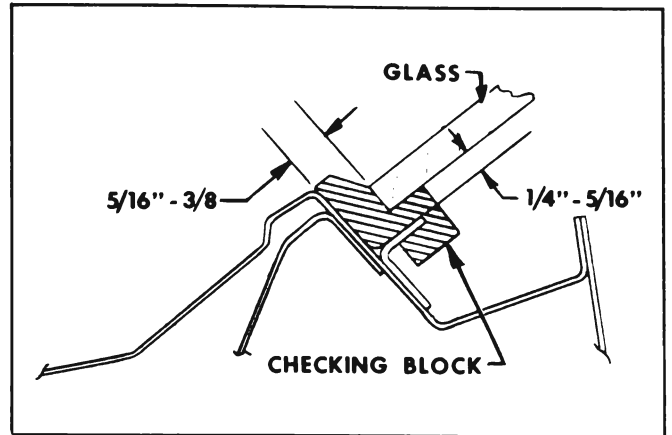

Figure 13-5—Windshield Opening Check
6. With windshield glass supported and centered in the body opening by checking blocks, check relationship of glass to body opening around entire perimeter of glass. Figure 13-5 shows a typical section taken through the glass channel and body opening. Check glass to body relationship as follows: